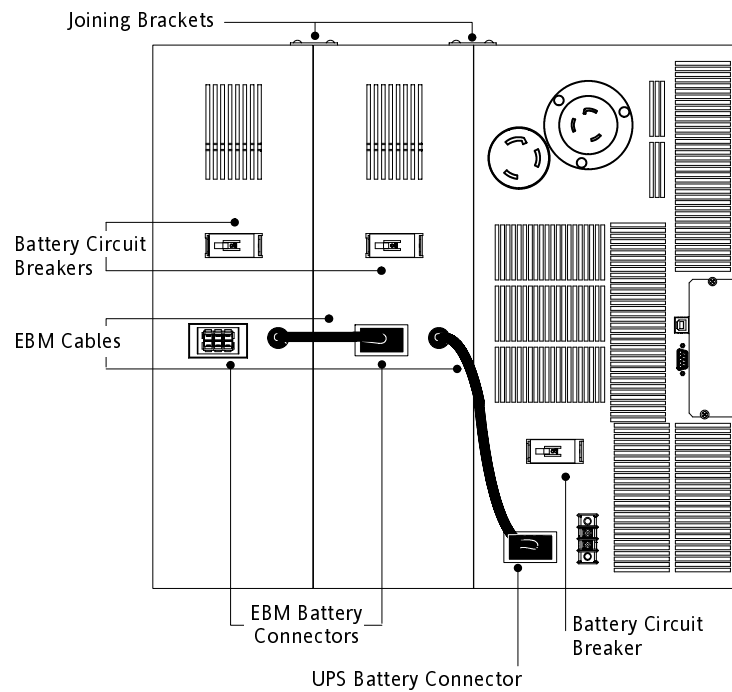

Figure 4. EBM Connections
1. Switch all battery circuit breakers to the OFF (O) position (see Figure 4).
6. Plug the new EBM into the UPS as shown in Figure 4.